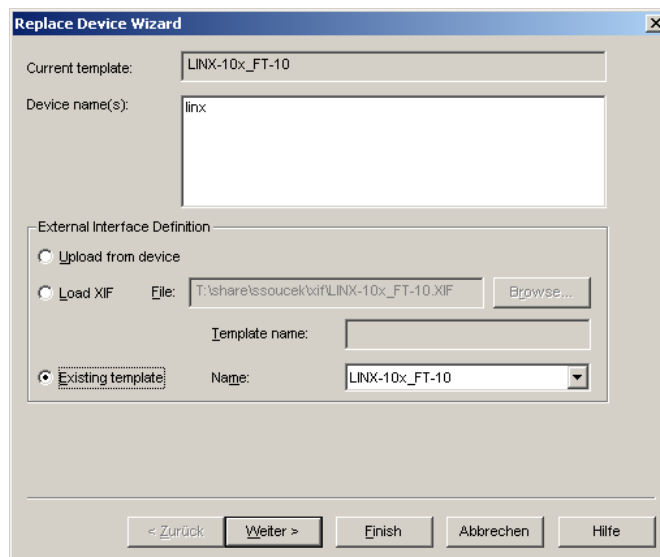

Figure 71: LonMaker replace device wizard.
2. Select **Commissioning** → **Replace....** This opens the LonMaker Replace Device Wizard as shown in Figure 71.